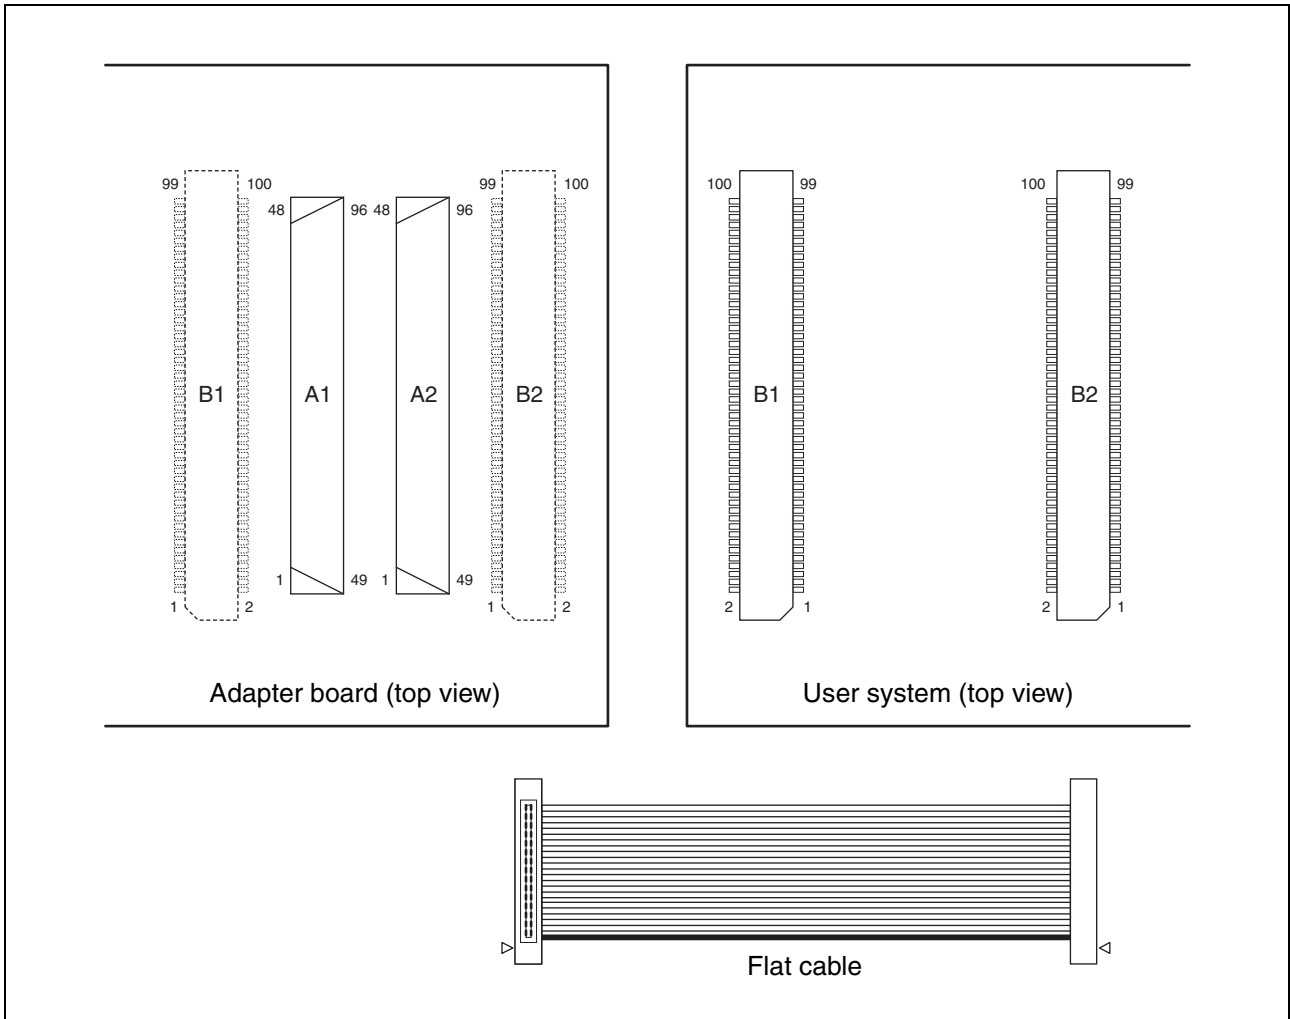

Figure 16 Correspondence between probe connector B1/B2 pin numbers on the adapter board and user system
- Regarding mounting of probe connector B1/B2 on the user system, note the layout of pin numbers of probe connector B1/B2 on the user system. Figure 16 shows the correspondence between probe connector B1/B2 pin numbers on the adapter board and those on the user system when a flat cable is used.